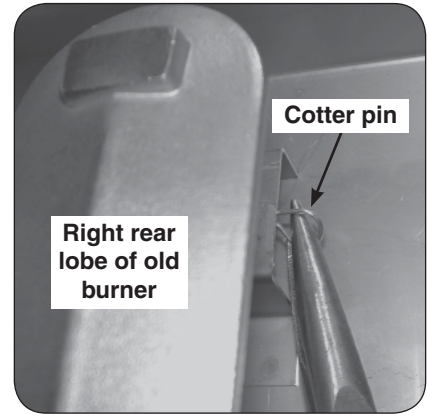

Fig. 2-1 Remove the cotter pin
- Remove the cotter pin from the right rear burner anchoring peg using needle-nose pliers. Pull it straight out of the cotter pin hole (see Fig. 2-1).